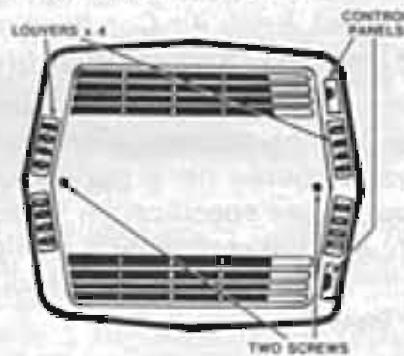

FIGURE 3
2. Remove the two screws that secure the ceiling assembly shroud to the ceiling assembly. See Fig. 3.